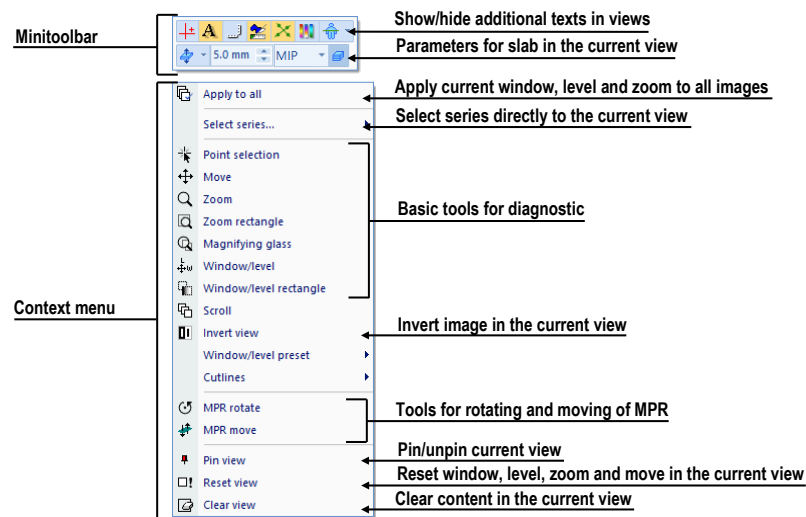

Figure 13 – View context menu with mini-toolbar
2. Select the command or tool from the context menu (see Figure 13). The context menu will hide automatically, and selected command will be performed, or selected tool will be activated in the current view.